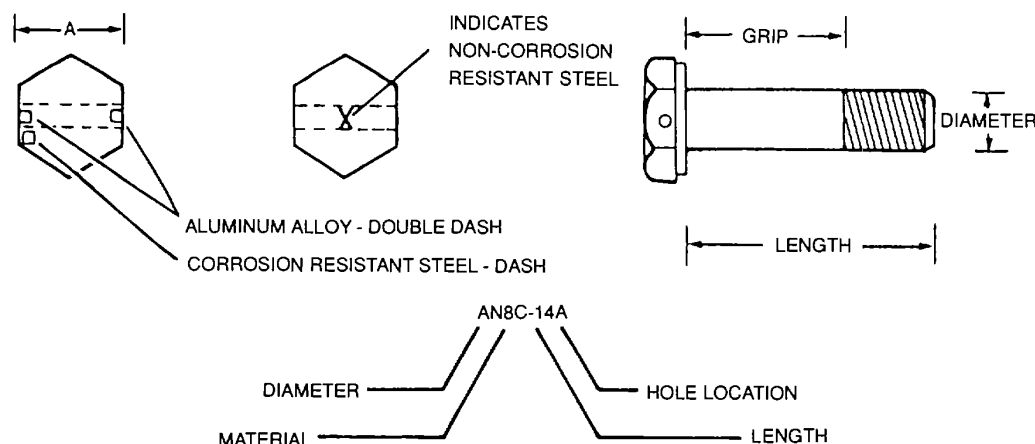
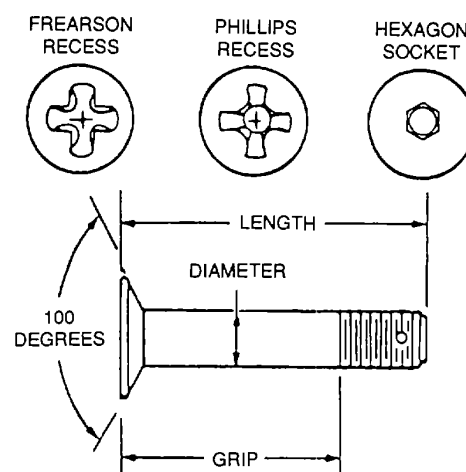

Figure 2-2. Hexagon Head Bolt Identification
Figure 2-4. Countersunk Close Tolerance Bolt
(2) *AN bolt part number.* The AN bolt code designation indicates type of bolt, diameter, material, overall length, and if the head or shank is drilled. See figure 2-2 and refer to tables 2-2 through 2-5.
g. Close Tolerance Bolts. Close tolerance, hexagon-head, and 100-degree countersunk bolts are used in aircraft fabrication where bolted joints are subject to severe load reversals and vibration. The bolt shanks are made to close tolerance, permitting a very close fit with the use of reamers. Use such bolts to eliminate lost motion in control systems, etc. Hexagon head bolts are shown in figure 2-2, 100-degree countersunk bolts are shown in figure 2-4. Use an internal hexagonal, Phillips or Frearson recess-type wrench for turning counter-sunk head bolts.